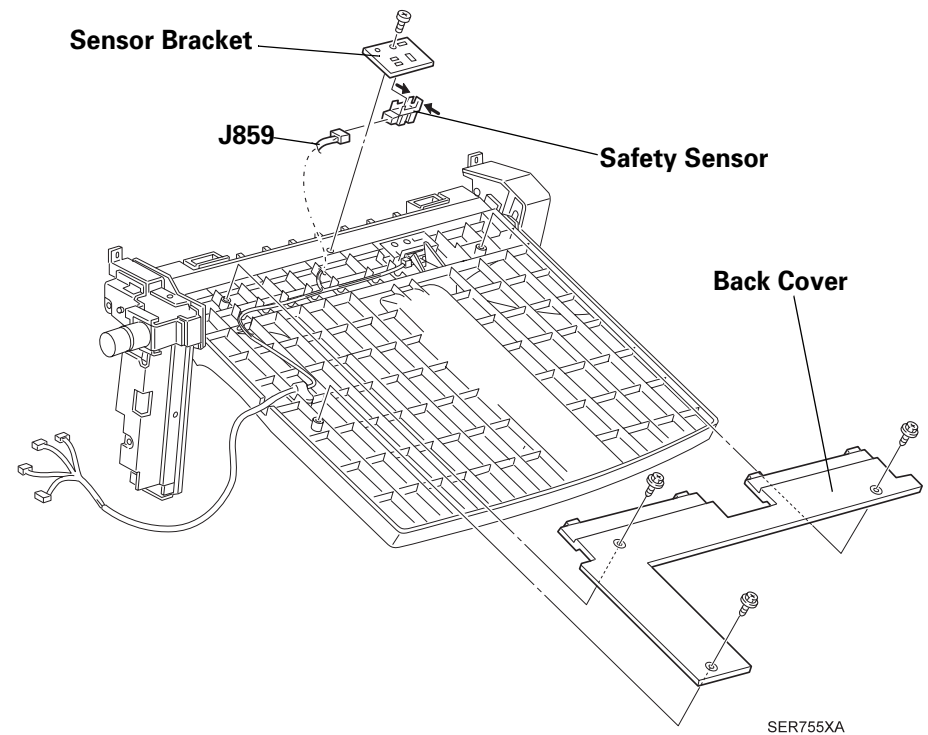

Figure 3-28. Bottom Tray
1. Place the Bottom Tray Safety Sensor as shown in the Figure 3-28 and insert it with the latches ahead into the cutouts of the Sensor Bracket and set the latches on.